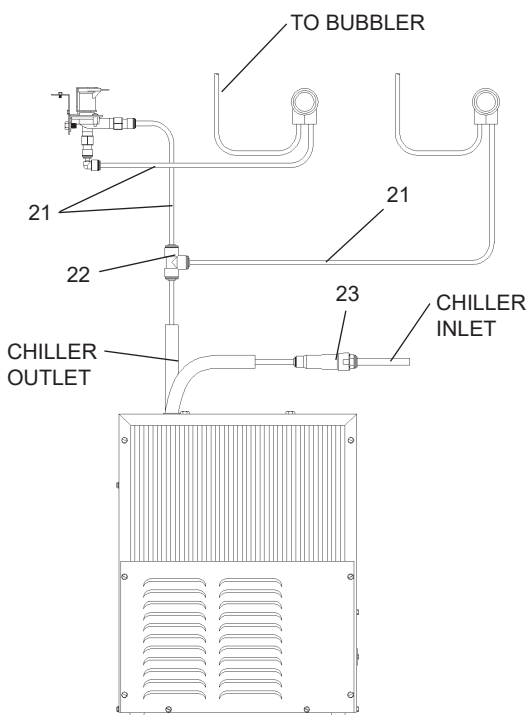

Figure 3 - ENO Tube Routing
- 3. Make water supply connections.** Inlet port is marked on the chiller (1/4" O.D. copper tube). Bend the copper tube (provided) at an appropriate length from the chiller to opening in frame. Install the in-line strainer (provided with chiller) by pushing it in until it reaches a positive stop, approximately 3/4" (19mm) on the marked chiller inlet port (See Figs. 3) (Refer to Fig. 13 on page 7 for details on assembling quick connect fittings). Attach an unplated and deburred copper water inlet line and a service stop (not provided) to the chiller. Turn on the water supply and flush the line thoroughly.
- 4. Make connection between remote chiller outlet tube and solenoid valve assembly.** Outlet port is marked on the chiller (1/4" O.D. copper tube). Install a 1/4" tee (provided) on the marked chiller outlet port. Insert one end of 1/4" poly tubing into the tee and the other end into the straight fitting on the solenoid valve assy. (See Fig. 3)
9. **Make connection between solenoid valve assembly and fountain(s).** Insert the 1/4" poly tubing coming from the fountain with sensor into the solenoid valve. Insert the 1/4" poly tubing coming from the fountain with push button into the tee (See Fig. 3).